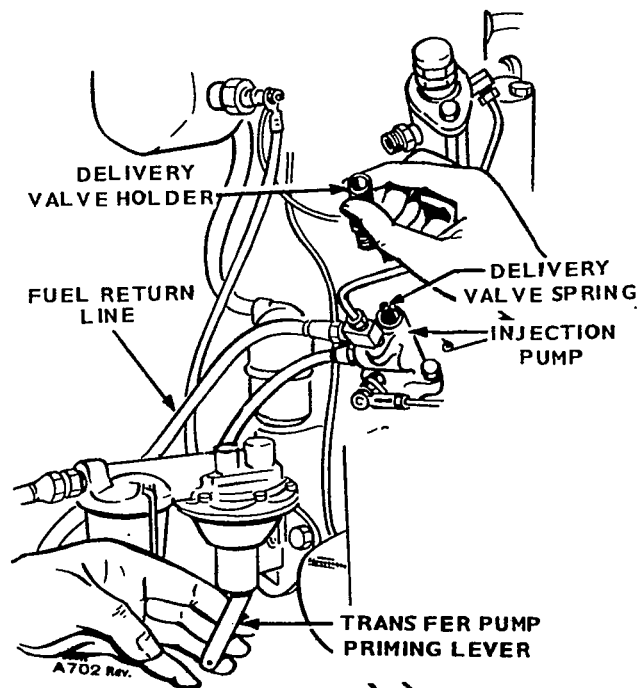

FIGURE 23. LOOSENING DELIVERY VALVE HOLDER
2. Loosen the delivery valve holder to relieve pressure on spring. See Figure 23.
3. Rotate the flywheel to about 15 degrees before the port closing (PC) point. Blow in the pump inlet and rotate the flywheel slowly clockwise until air stops coming out of the pump outlet. This is the port closing point.